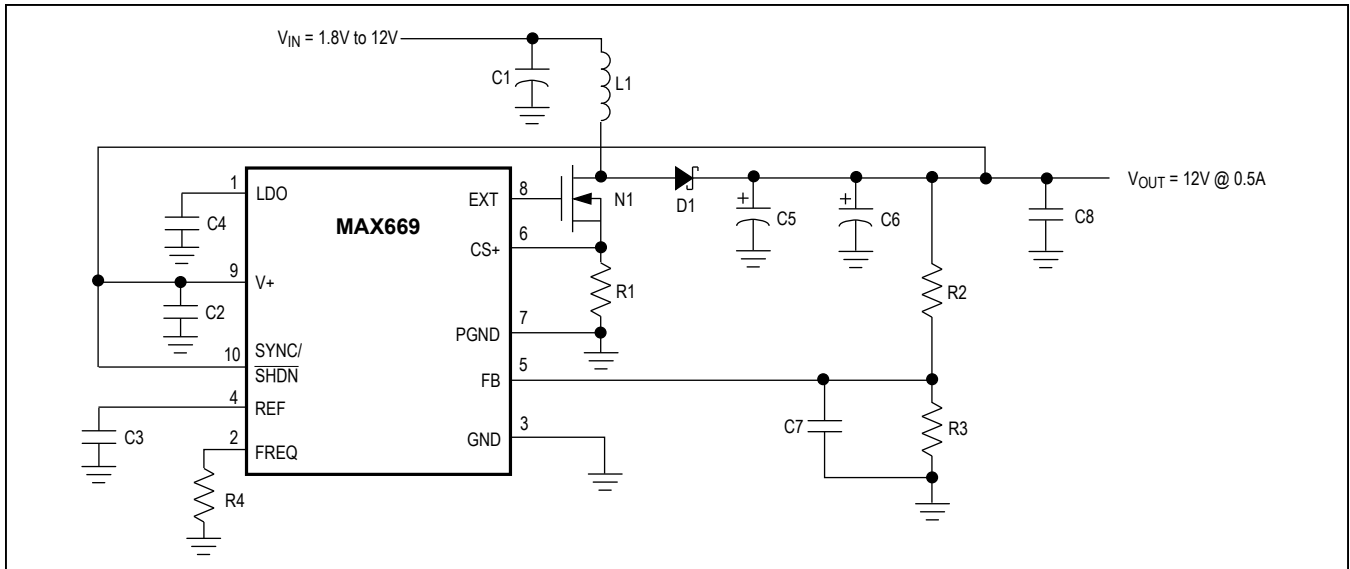
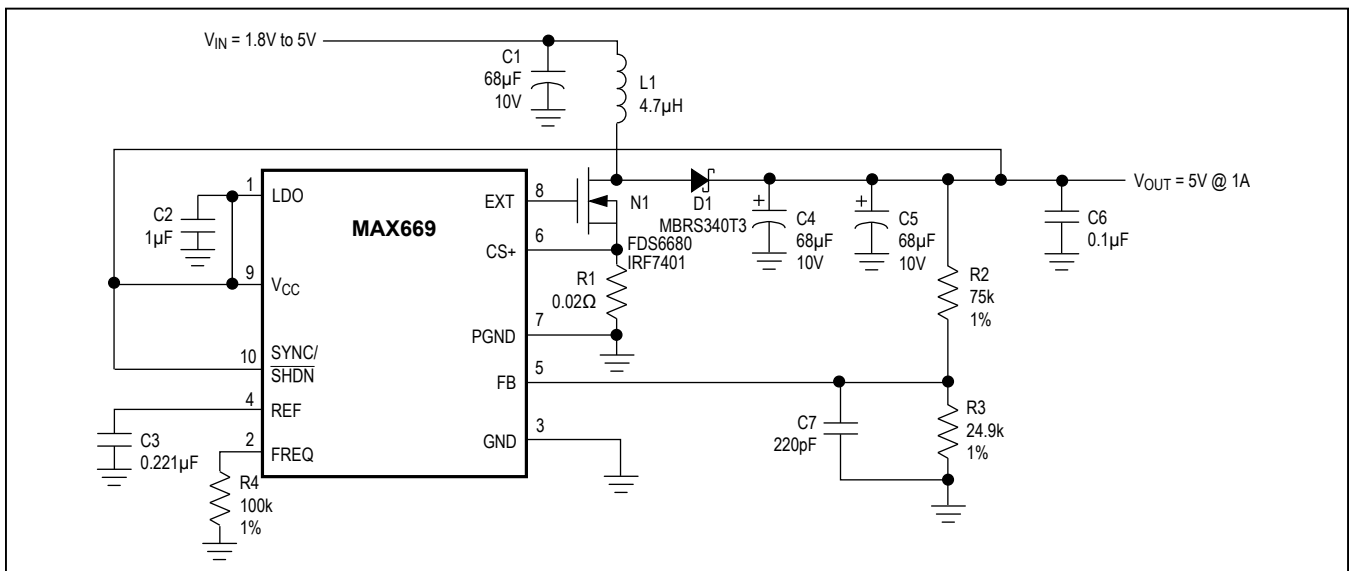

Figure 2. MAX669 High-Voltage Bootstrapped Configuration
Figure 3. MAX669 Low-Voltage Bootstrapped Configuration
(Circuits of Figures 2, 3, 4, and 5; $T_A = +25^\circ\text{C}$; unless otherwise noted.)
V_{CC} and LDO allow a variety of biasing connections to optimize efficiency, circuit quiescent current, and full-load start-up behavior for different input and output voltage ranges. Connections are shown in Figure 2, Figure 3, Figure 4, and Figure 5. The characteristics of each are outlined in Table 1.
With V_{CC} connected to V_{OUT} , as in Figure 2, EXT voltage swing is 5V when V_{CC} is 5.2V or more, and $V_{CC} - 0.2V$ when V_{CC} is less than 5.2V. If the output voltage does not exceed 5.5V, the on-chip regulator can be disabled by connecting V_{CC} to LDO (Figure 3). This eliminates the LDO forward drop and supplies maximum gate drive to the external FET.
* For standard step-up DC-DC circuits (as in Figures 2, 3, 4, and 5), regulation cannot be maintained if V_{IN} exceeds V_{OUT}. SEPIC and transformer-based circuits do not have this limitation.
The output voltage is set by two external resistors (R_2 and R_3 , Figure 2, Figure 3, Figure 4, and Figure 5). First select a value for R_3 in the 10k Ω to 1M Ω range. R_2 is then given by:
where $R2$ and $R3$ are the feedback resistors (Figure 2, Figure 3, Figure 4, and Figure 5). If the calculated value for C_{FB} results in a non-standard capacitance value, values from $0.5C_{FB}$ to $1.5C_{FB}$ will also provide sufficient compensation.
Figure 3 shows the MAX669 operating in a low-voltage boost application. The MAX669 is configured in the bootstrapped mode to improve low input voltage performance. The IRF7401 nMOSFET was selected for Q1 in this application because of its very low 0.7V gate threshold voltage (V_{GS}). This circuit provides a 5V output at greater than 2A of output current and operates with input voltages as low as 1.8V. Efficiency is typically in the 85% to 90% range.